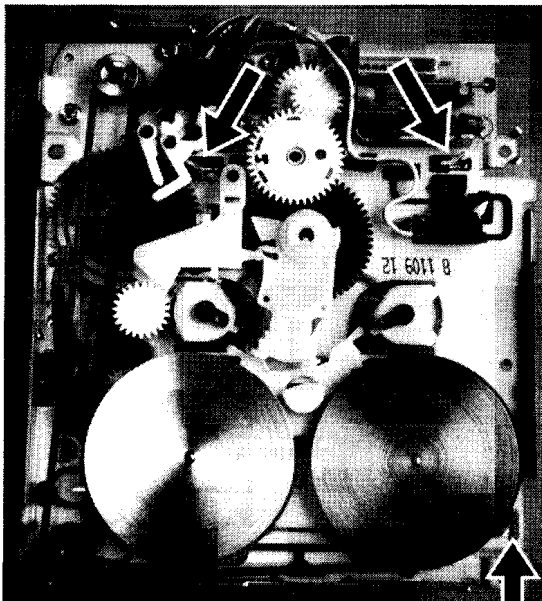

Figure 16
- Remove flywheel (NOR) pos.11 as described in '6.8'.
- Cut pin of switch wheel 1 pos. 37.
- Take out switch lever assy pos. 39.
6.15 Gear rod pos. 54 / Lift wheel gear pos. 68
- First remove the cassette loading assy pos. 50 by bending the three lips of the assy in straight position, lifting it at the front and sliding it out carefully. See figure 16.
- Take out gear rod pos. 54.
- Remove fixation retaining ring pos. 6.
- Take out lift wheel gear pos. 68.
The loading assy plate must match the base plate *completely*. Bend the three lips back into the right direction so that the loading assy plate is locked. See also figure 16.